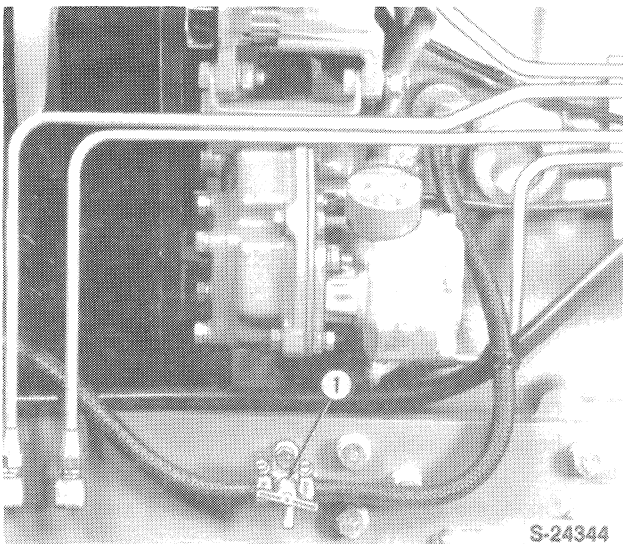

Figure 13
2. Drain the coolant from the radiator and engine block, Figure 13.